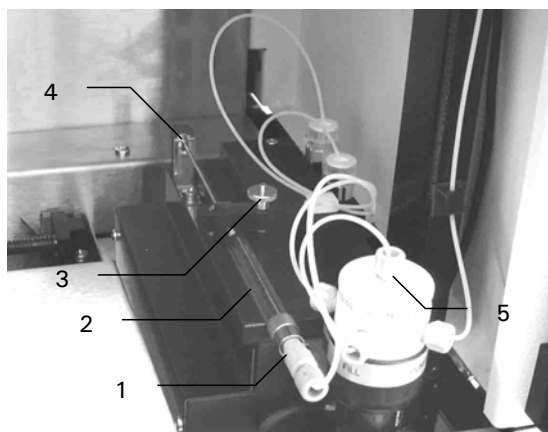

FIGURE 3-3 Replacing the Syringe
- a) Disconnect the tubing that goes to the rotary valve (e.g. unscrew the Luer-Lock adapter from the syringe, item 1, 2; FIGURE 3-3).
- b) Loosen the screw of the clamp that holds the syringe and turn the clamp by 90 degrees (item 3; FIGURE 3-3).